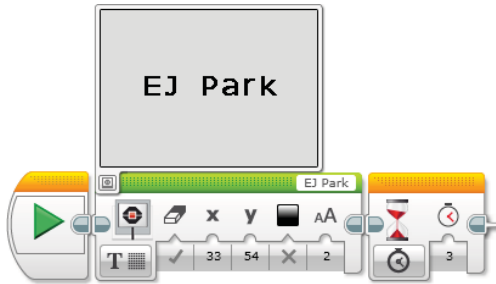

Figure 5-14: The Display block with the Wait block
6. Drag the Wait block and connect it next to the Display block that you created and put 3 in its input section to have a program that looks like the one in Figure 5-14.